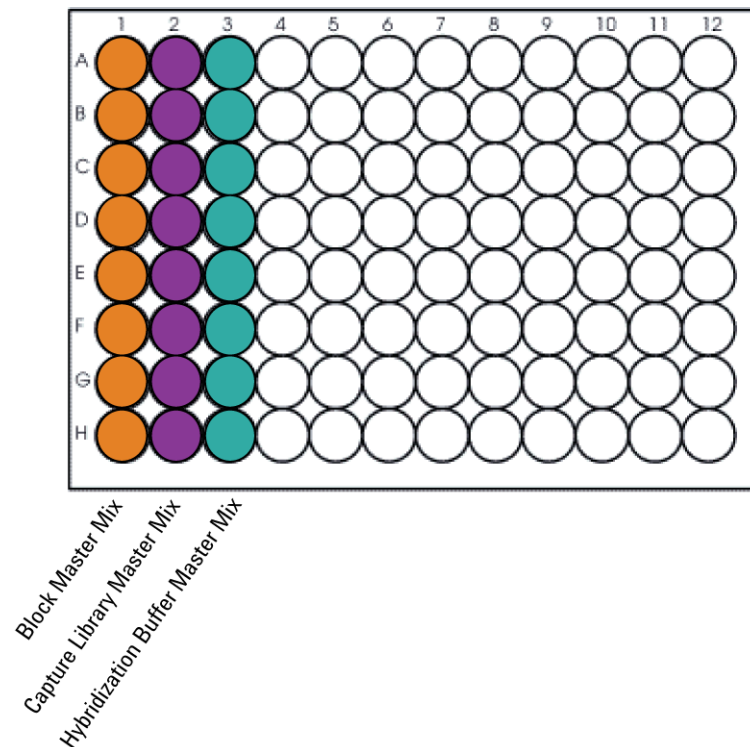

Figure 18 Configuration of the master mix source plate for Hybridization_v1.5.1.pro.
- 9 In a Nunc DeepWell plate, prepare the master mix source plate containing the master mixes prepared in **step 5** to **step 7** at room temperature. Add the volumes indicated in **Table 56** of each master mix to each well of the indicated column of the Nunc DeepWell plate. When using multiple capture libraries in a run, add each Capture Library Master Mix to the appropriate row(s) of the Nunc DeepWell plate. The final configuration of the master mix source plate is shown in **Figure 18**.